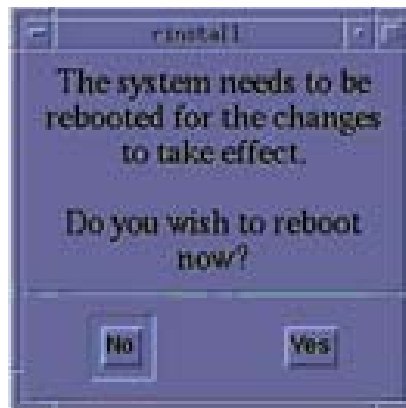

Figure 6-17 Reboot Screen
- 14.) When the loading process and configuration changes are complete, the system displays a prompt to reboot. Click on YES. (See Figure 6-17).